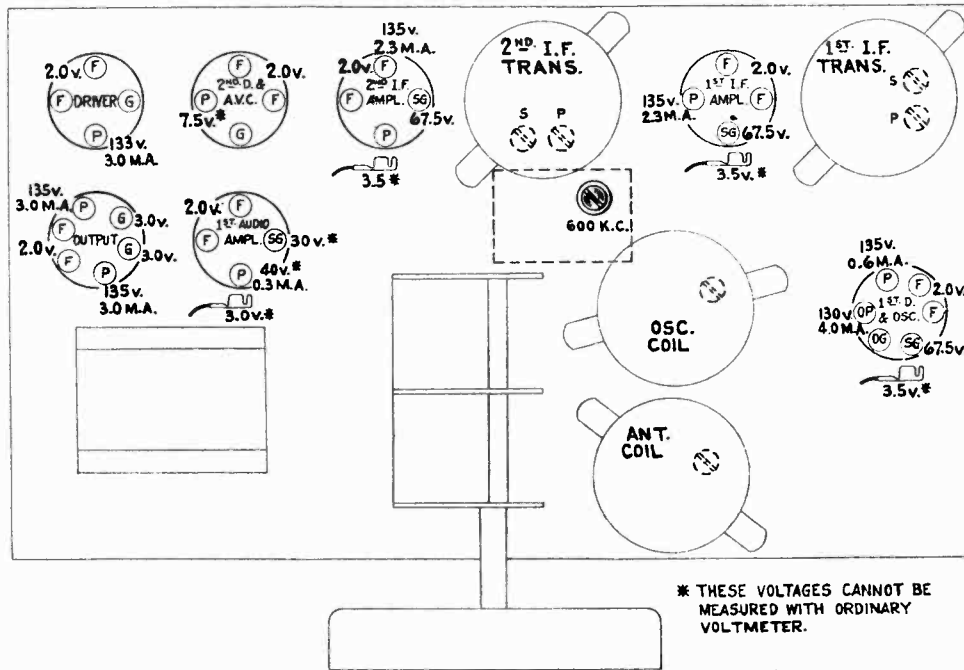

Figure 4—Line-Up Capacitor Locations and Voltage Values at Socket Contacts
To properly align this receiver, it is essential that a modulated R. F. oscillator of suitable frequency range such as Stock No. 9050, an output indicator, Stock No. 4317, and an alignment tool, Stock No. 4160, be available. Figure 4 shows the location of the various line-up capacitors.
The I. F. amplifier comprises two stages which have three transformers. The third transformer is untuned so that only a total of four tuned circuits are used. Refer to Figure 4 and proceed as follows:
- (b) Then set the Test Oscillator at 1720 K. C., the dial pointer at 1720, and adjust the oscillator output so that a slight glow will be obtained in the output indicator when the volume control is at its maximum position. Adjust the two trimmers under the two R. F. coils, see Figure 4, until a maximum output is obtained. Then shift the Test Oscillator frequency to 600 K. C. The trimmer capacitor, accessible from the top of the chassis, should now be adjusted for maximum output while rocking the main tuning capacitor back and forth through the signal. Then repeat the 1720 K. C. adjustment.
Voltage and current values listed in the following table and indicated at the Radiotron socket contacts on Figure 4 form a reference basis for test of the receiver. It is to be noted that all voltages are given with respect to chassis-ground, excepting those appearing across the filaments (F-F). The values shown are